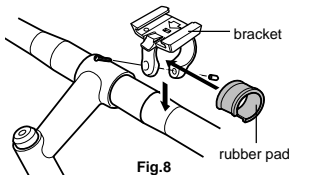

Fig.8
- Use either 1mm- or 2 mm-thick pads if necessary, according to handlebar diameter. Attach the bracket close to the handlebar stem (fig. 8).